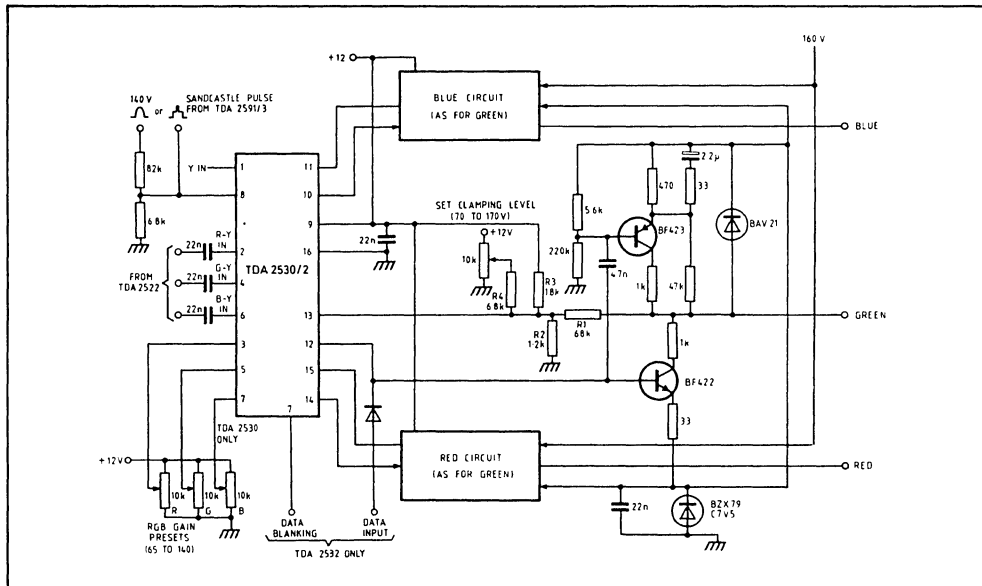

Fig. 3 TDA2530/2 applications and test circuit
Test circuit Fig. 3
- The integrated load resistors include series diodes; this means that the resistors can be ignored when V₁₀, V₁₂, V₁₄ > V₉. Under this condition, external load resistors must be chosen such that the current is nominally 4.4mA. See Fig. 3.
(fig 3)